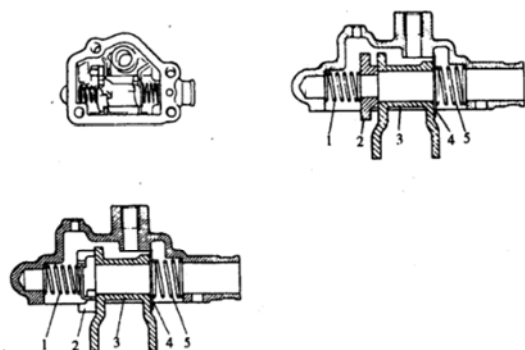

Fig.3.2-2
- ② Install the second spring, fork arm, washer and the first arm to the cover body. The tightening torque of reverse gear limit screw is 18-28N · m (Please refer to Fig.3.2-2).